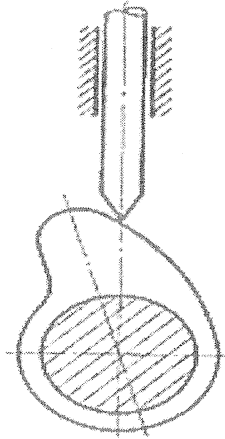

Figure Q2: Cam Mechanism
- Q2 a) Figure Q2 shows a cam mechanism. Classify it according to the shape, path and motion of the follower. [2.0 Marks]
- b) Find Degrees of Freedom (DOF) of the cam mechanism in Figure Q2. [2.0 Marks]